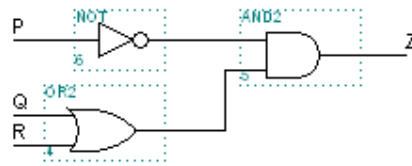

FIG 1.13
Redraw the combinational circuit in Fig 1.13, and its truth table in your log book.
- 2.1 Assemble the circuit in Figure 1.13. Use the pin assignments that you have made in the pre lab exercises. Remember to correctly connect the **Vcc and GND** pins for every IC in use.